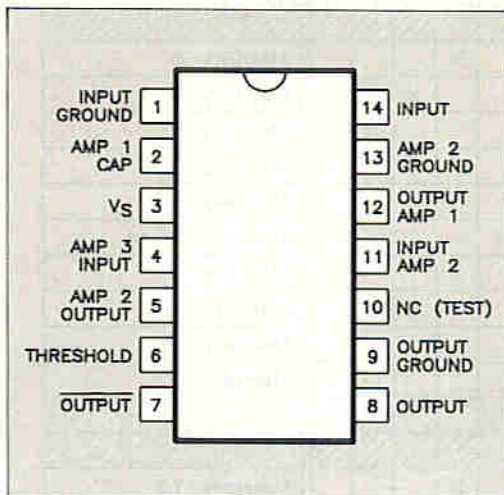

Figure 9. TBA2800 Pin out.
1. The IR receiver uses a TBA2800, IC3, its pin out is shown in Figure 9 with a full listing of its absolute and recommended operating conditions given in Figure 10. The operation of this IC can be simplified in four separate procedures as depicted in Figure 11. All stages are powered from a common $+5V$ supply rail on pin 3 which is decoupled by C19 and C20.